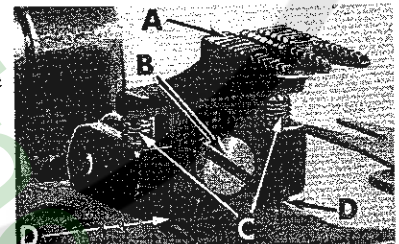

Fig. 6
Set the feed dog (A, Fig. 6) so there is equal clearance on all sides in the throat plate. The tips of the teeth should extend the depth of a tooth above, and be parallel in both planes with the top of the throat plate at high point of travel. This can be accomplished by loosening the feed dog mounting screw (B), raise or lower screws (C and D) as required to correct the height and parallelism across-the-line-of-feed. Retighten screw (B). To lock screws (C), tighten capstan screws (D).